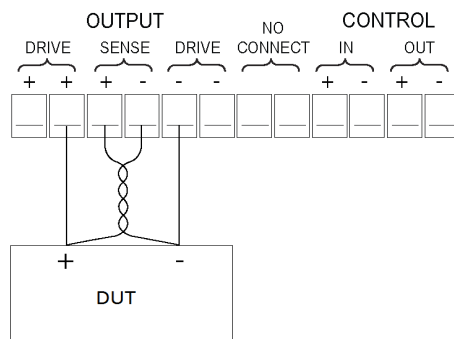

Figure 3 Connecting a Device to the Rear Panel
2. Connect a pair of leads from SENSE+ and SENSE- to the device under test as shown in Figure 3 below. (NOTE: To assure system stability, use a jacketed, twisted-pair cable between the remote sense terminals of the Series 2200 and the load.)
3. Connect a pair of leads from the DRIVE+ and DRIVE- to the device under test as shown, again, in Figure 3.